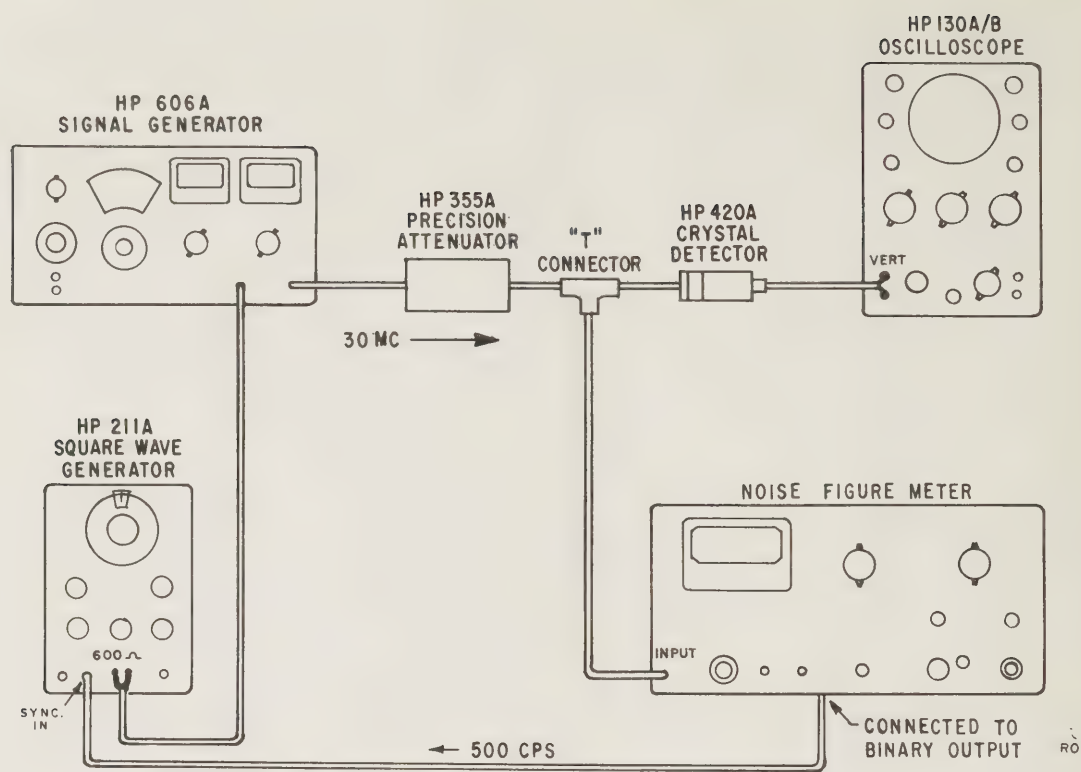

Figure 4-4. Test Setup for Meter Tracking
- 1) A square-wave generator which can be externally synchronized, such as an Φ Model 211A; 2) a stable vhf signal generator, such as an Φ Model 606A; 3) a vhf attenuator calibrated to ± 0.1 db in 1 db steps from 1 to 11 db, such as an Φ Model 355A (typical accuracy of 355A at 30 mc is approximately 0.06 db); 4) a crystal detector, such as an Φ Model 420A; and 5) an oscilloscope with a high sensitivity of 1 millivolt/cm, such as an Φ Model 130B. Equipment connection is shown in Figure 4-4.
- 1) Remove the rear cover of 340B. Connect equipment as shown in Figure 4-4; turn on equipment and allow warm up period of 30 minutes.